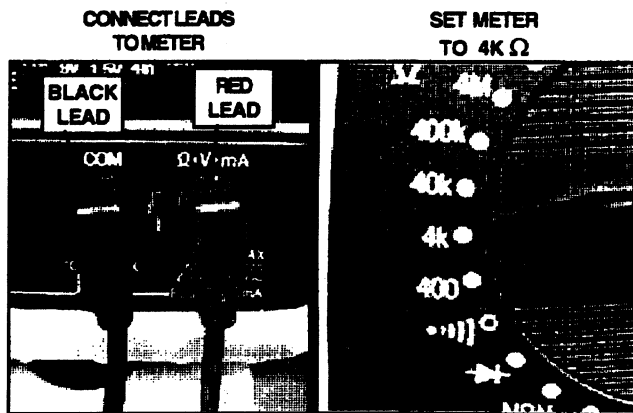

FIGURE 9.2
2. Connect leads to meter and set meter to the 4K OHMS Position. See Figure 9.2.